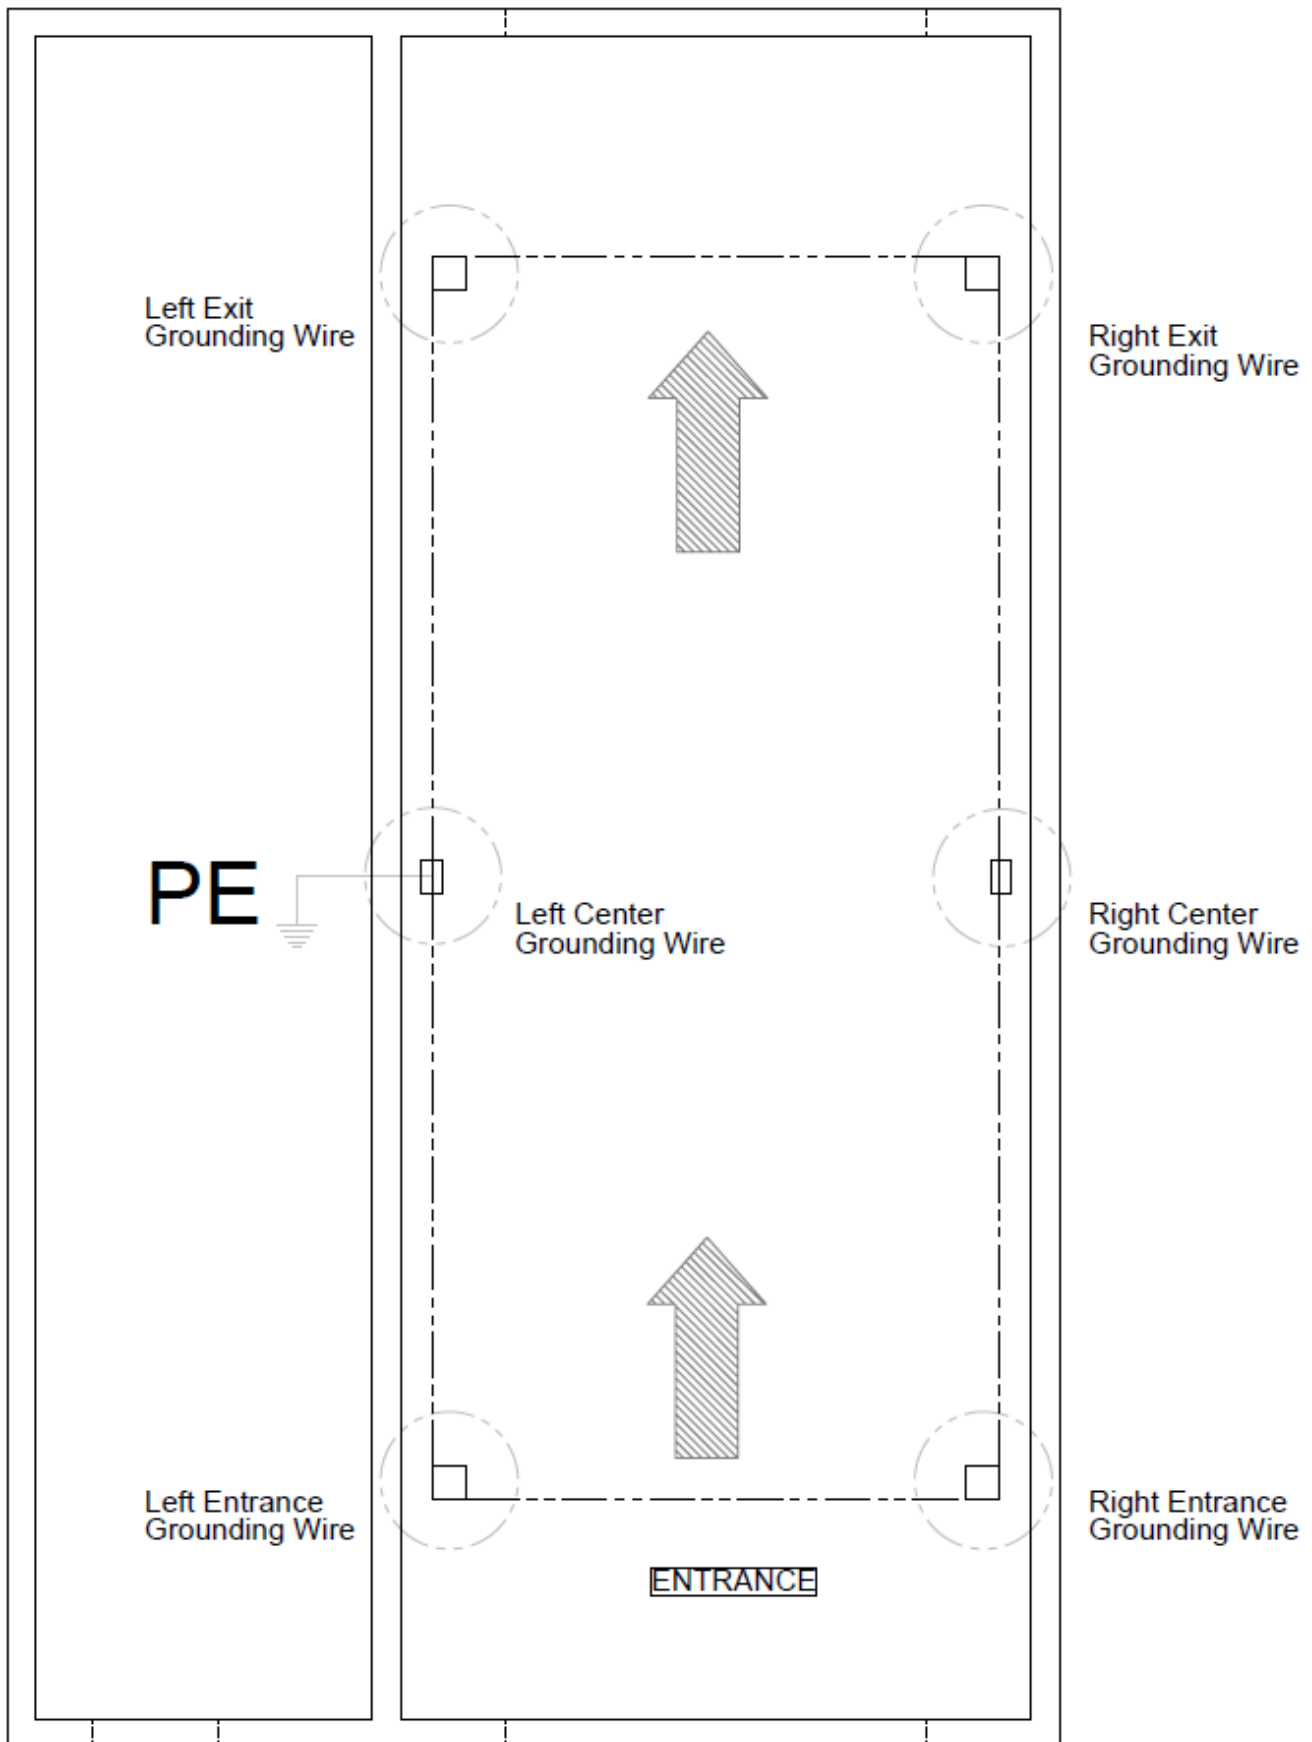

Figure 45 - Frame Grounding Locations
- Install the supplied ground wires from the grounding wire kit at each corner of the frame as shown in Figure 45 through Figure 49.